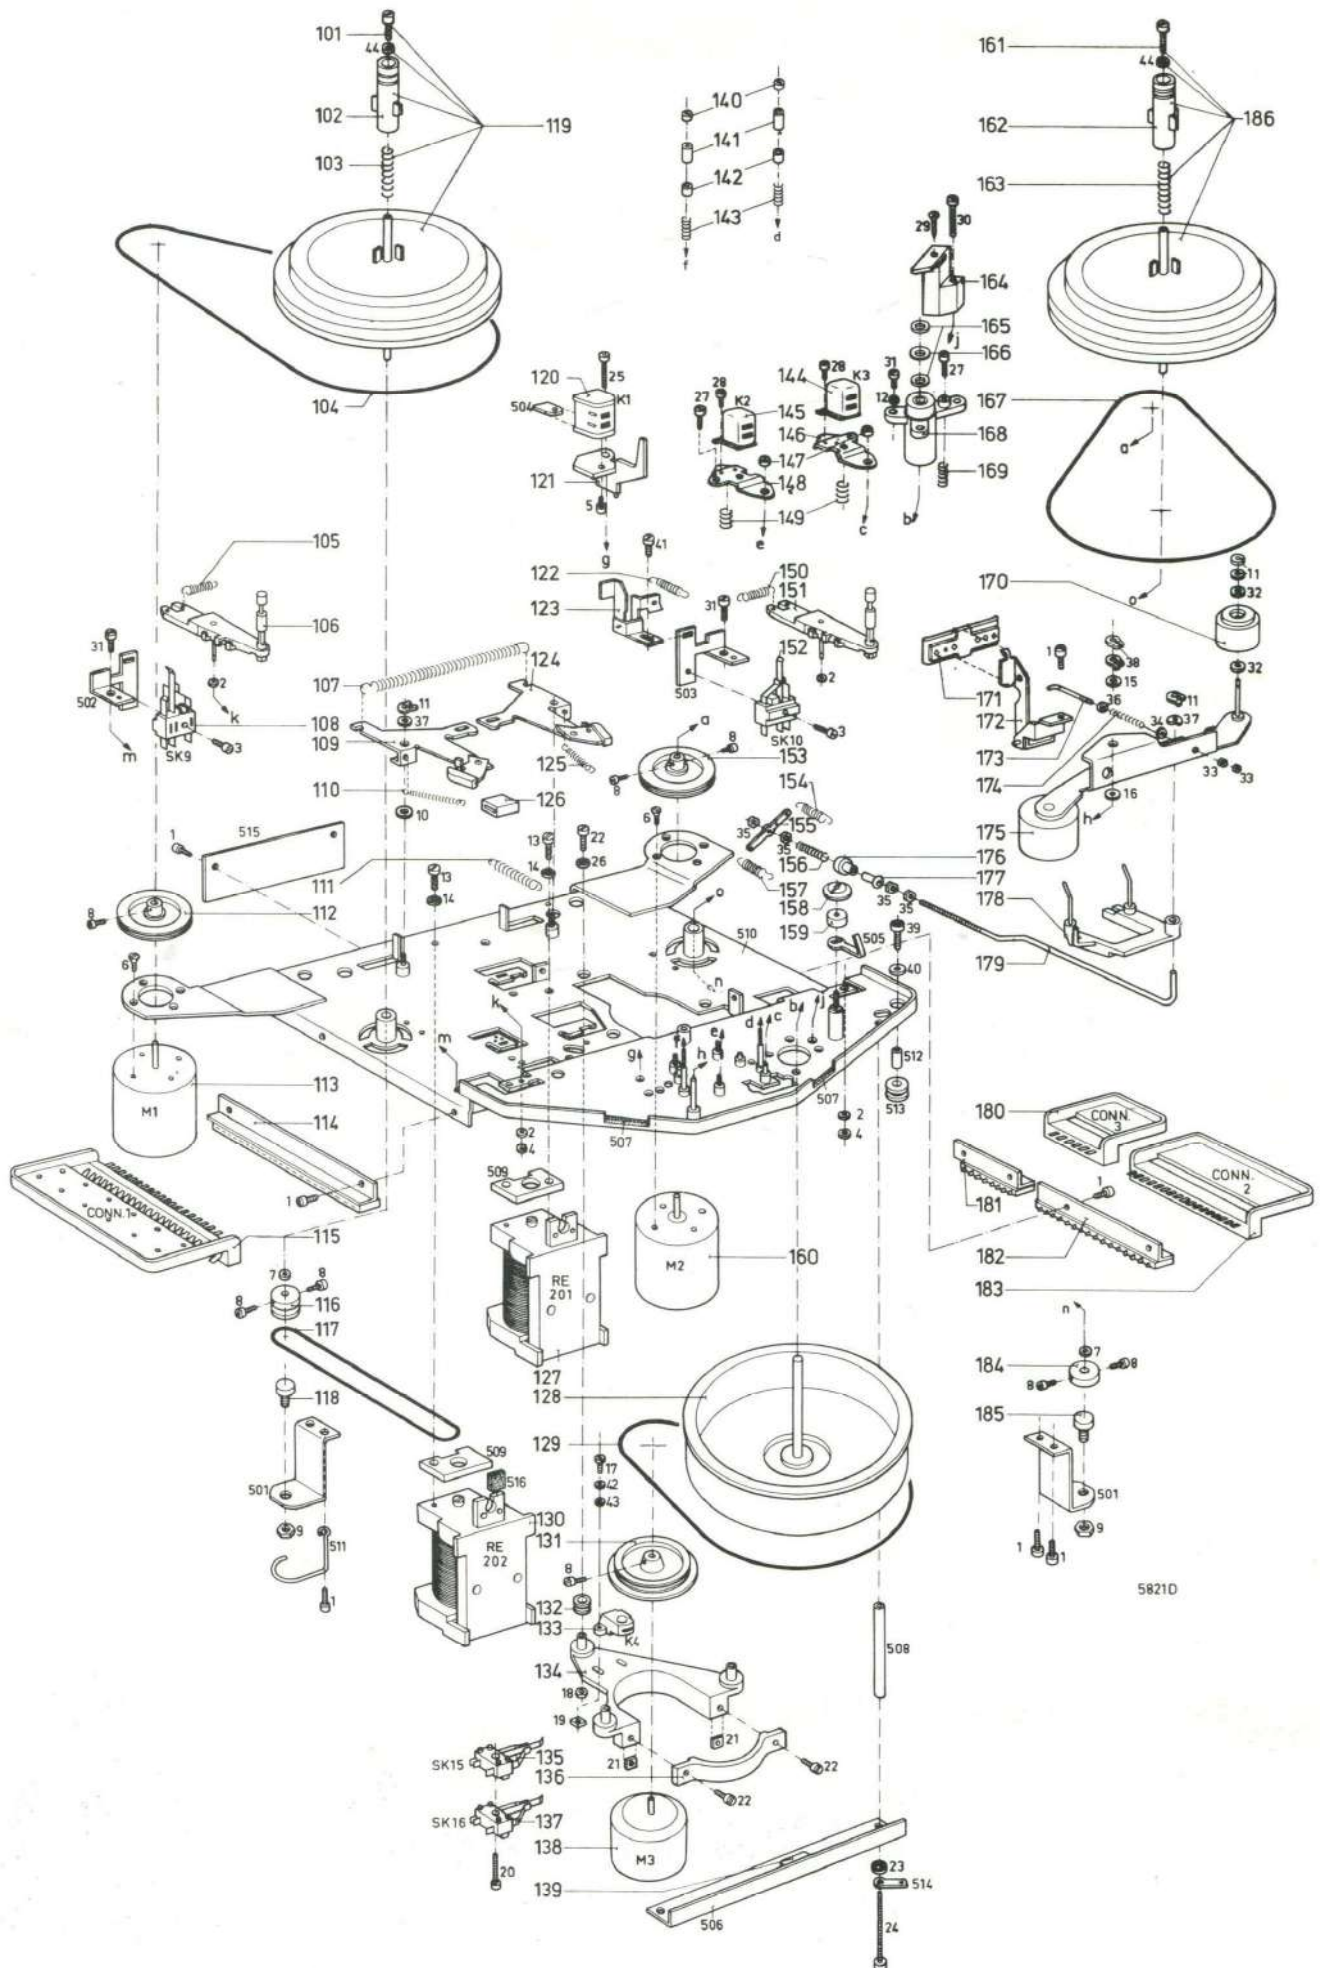
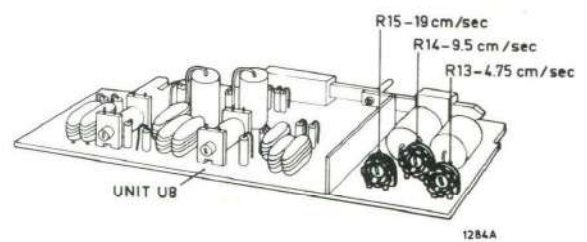

Fig. 15
Fig. 14
Adjusting the pulley of the reel motors (Fig. 15)
Adjusting the pressure roller (Fig. 15)
E. ADJUSTING THE CAPSTAN MOTOR (Fig. 15)
- The clearance between pulsing head K4 (133) and the magnet ring on pulley 131 must be exactly 0.1 mm. To be adjusted by loosening screws 17, adjusting the head correctly and tightening the screws again. Lockpaint the screws after the adjustment.
- Adjusting the tape speed is effected by turning on of the preset potentiometers at unit U8 (see Table below and Fig. 14).